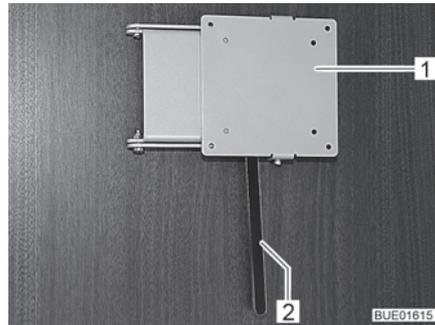

Fig. 92 Holder with release lever
- Push the release lever (Fig. 92,2) to the side and turn the holder (Fig. 92,1) with the flat screen to the desired position.
- Turn flat screen back until the holder (Fig. 92,1) engages in the lock.